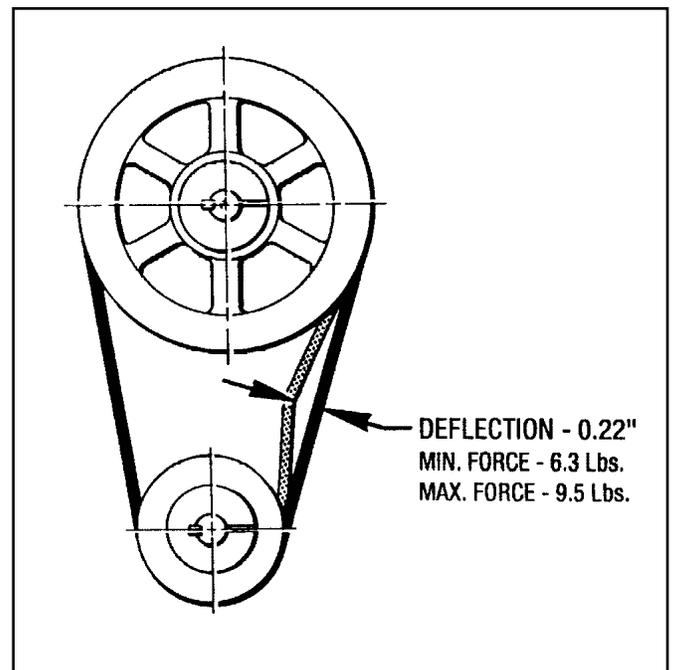

Figure 7.7 - Drive Belt Tension
3. Place the (3) Drive Belts (#531) on the Pulleys and re-tighten the belts by lowering the drive motor. This is done by loosening the bottom Nut (#462) and tightening the top Nut (#462). Adjust belt tension to specifications shown in Figure 7.7.
4. Mount the front top section of the Belt Guard (#515) to the top back plate with the (6) sheet metal screws located in the side panels.
5. Push the bottom section of the Belt Guard (#515) up and attach with (4) Screws (#474) and (4) Lockwashers (#487).